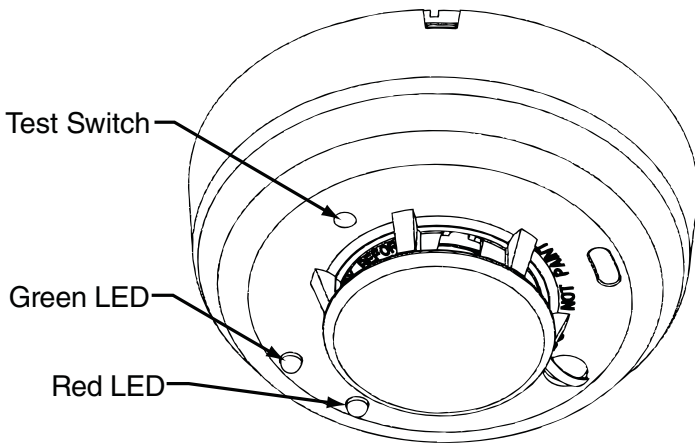

Figure 4: Silent Call Model #SD4-MC(US) Wireless Smoke Detector
- In dead air spaces at the top of a peaked roof or in the corners between ceilings and walls. Dead air may prevent smoke from reaching the detector. See figures 4 and 5 for recommended mounting location.